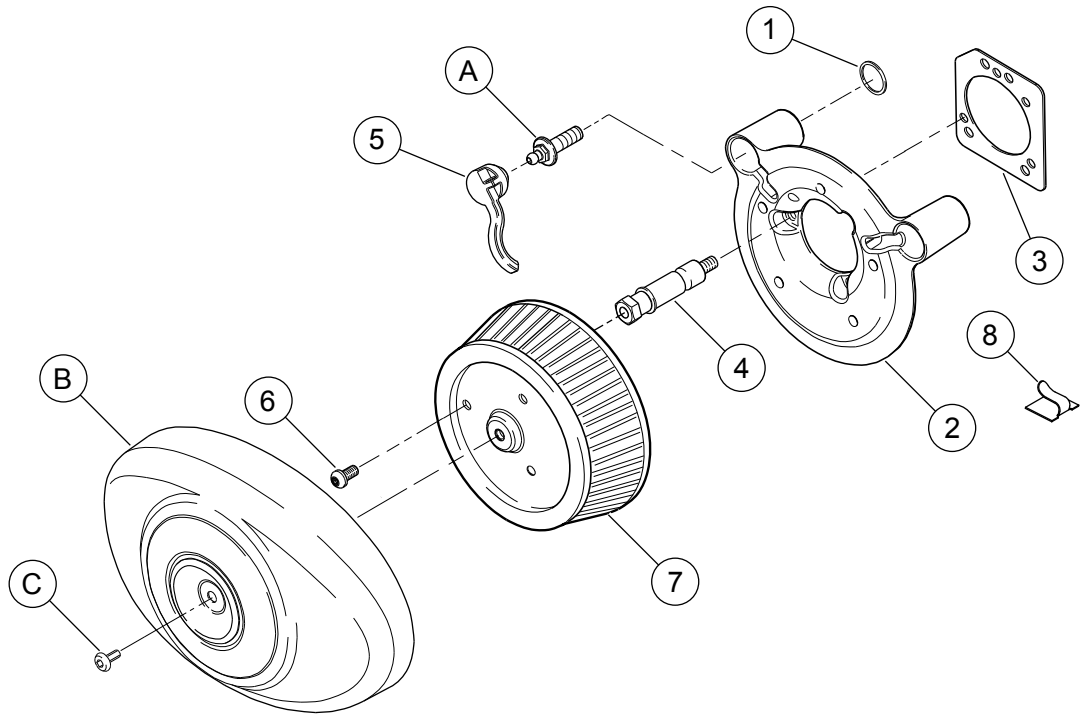

Figure 1. Service Parts: Screamin' Eagle Stage 1 Kit
See Figure 1 and Table 1.
1. Clean lower area of induction module side of backplate. Use a mixture of 50-70% isopropyl alcohol and 30-50% distilled water. Allow to dry completely. Align adhesive backed clip (8) with opening upwards, and affix in six o'clock position. Clamp wire harness previously removed from OE backplate.
2. See Figure 1. Install two O-rings (1) from kit in grooves around breather screw holes on induction module side of backplate assembly (2).
3. Align flat edge of gasket (3) with the molded tab. Install on induction module side of backplate.
4. Insert breather screws (A) through the backplate.
7. Thread air cleaner mounting studs (4) all the way through the backplate (2) and gasket (3) until the screw threads are captured in induction module. Leave fasteners loose.
8. Alternately tighten two breather screws (A) to 13.6–16.3 N·m (120–144 in-lbs).
9. Press breather plugs (5) into breather screw cavities, aligning tubes with recesses in backplate.
10. Tighten three air cleaner studs (4) to 6.2–6.8 N·m (55–60 in-lbs).
1. See Figure 1. Secure air filter element (7) to air cleaner mounting studs (4) using screws (6). Tighten screws to 6.2–6.8 N·m (55–60 in-lbs).
2. Apply Loctite 243 (blue) to air cleaner cover screw (C). Secure air cleaner cover (B) to air filter element (7) with screw.
1. See Figure 1. Remove air cleaner cover (B) and inspect the filter element (7) every 5000 mi (8000 km), or more often under dusty conditions.